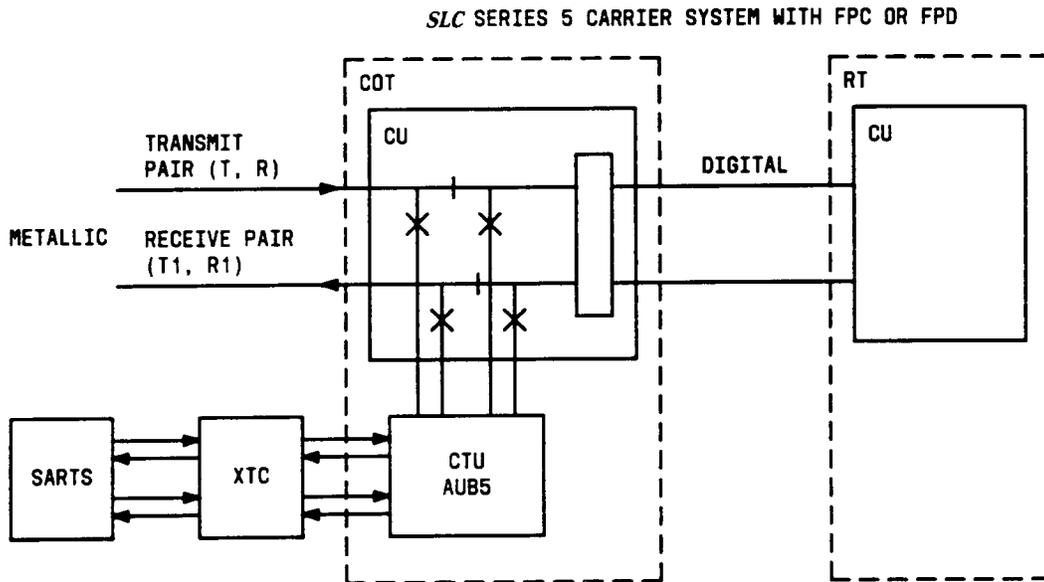

Figure 2 — SARTS Test Access to COT Metallic Connection
- Allows test access to locally and nonlocally switched special services channel units (E SPOTS® channel unit, DID (direct inward dialing), 4-wire voice frequency, and dataport) without the need for the SMAS (switched maintenance access system) access points. Full splitting access to the metallic pairs is provided at the COT (Figure 2).